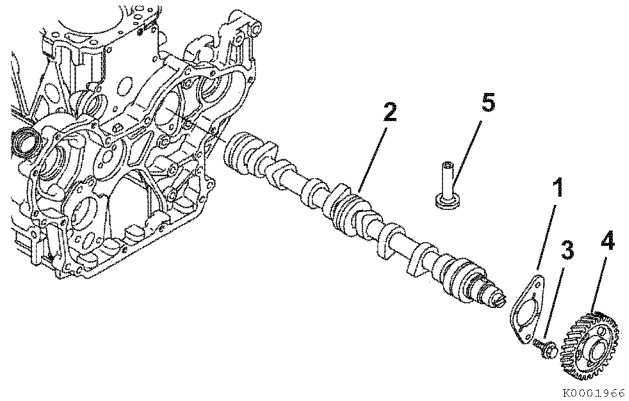

Figure 6-50
2. Remove the two bolts (**Figure 6-50, (3)**) retaining the camshaft thrust plate (**Figure 6-50, (1)**).
3. Rotate the engine in the engine stand so that gravity causes the tappets (**Figure 6-50, (5)**) to drop away from the camshaft lobes.
4. Slowly pull the camshaft (**Figure 6-50, (2)**) assembly out of the engine being careful not to damage the front camshaft bushing.
6. Remove the camshaft drive gear (**Figure 6-50, (4)**) only if the gear or camshaft require replacement. Use a knife-edge puller and a press to remove the gear. The gear is a shrink-fit and will need to be heated to 356 - 392 °F (180 - 200 °C) to remove.